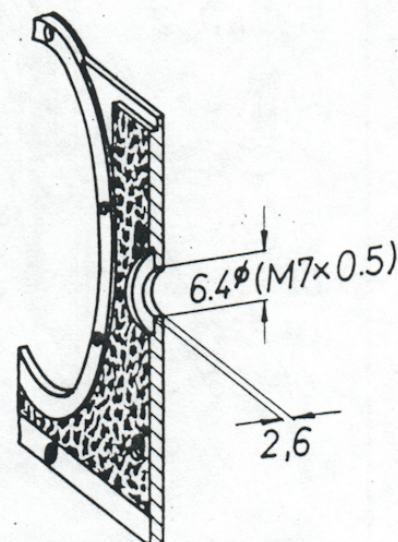

Fig. 90.1
1. Place the drilling jig 42-253.01-U555 W54 on the housing and push both over the drilling and countersinking rear support 42-253.01-U555 W53, and drill through with the 6.4 mm dia. twist drill. Countersink with the countersink bit 42-253.01-U555 W52 on the drilling and countersinking rear support 42-253.01-U555 W53 (see fig. 90.1). Tap with the screw tap M 7 x 0.5.